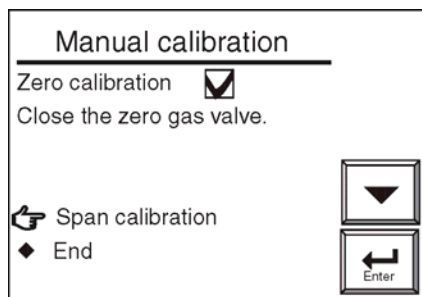

Figure 10-18 Zero-gas Calibration Complete (in Manual Calibration Display)
3. Select Valve opened (to start calibration) from the Manual calibration display screen. Check the Trend Graph display screen to verify the measured value has stabilized. Then press the [Enter] key. The Manual calibration display screen should appear as shown in Figure 10-18. Immediately stop the zero-gas flow. Turn the zero-gas valve regulator fully clockwise.